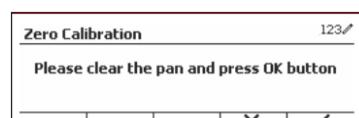

Figure 5
3. Clear the pan and then press the softkey corresponding to the **✓** icon. (See Figure 5)